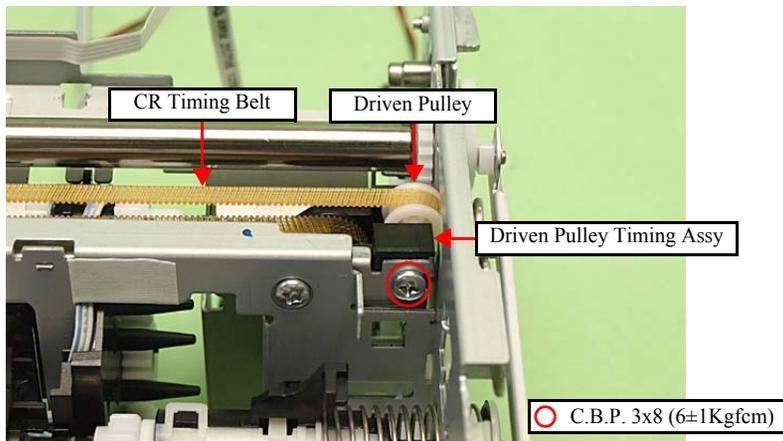

Figure 4-131. Removing the Driven Pulley Timing Assy
- Remove the screw (x1) that secures the Driven Pulley Timing Assy, and remove the Driven Pulley Timing Assy. (See Fig. 4-131.)